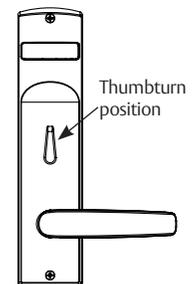

Figure 5
- For thumbturn indicators, make sure thumbturn is positioned in 12 o'clock direction as shown. (Figure 5)